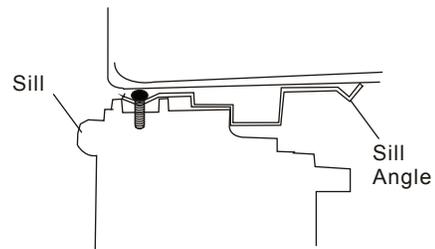

Fig.12
2. Place cabinet in window with bottom sill angle firmly seated over window sill as shown. Bring window down temporarily behind top angle to hold cabinet in place. (Fig. 12)